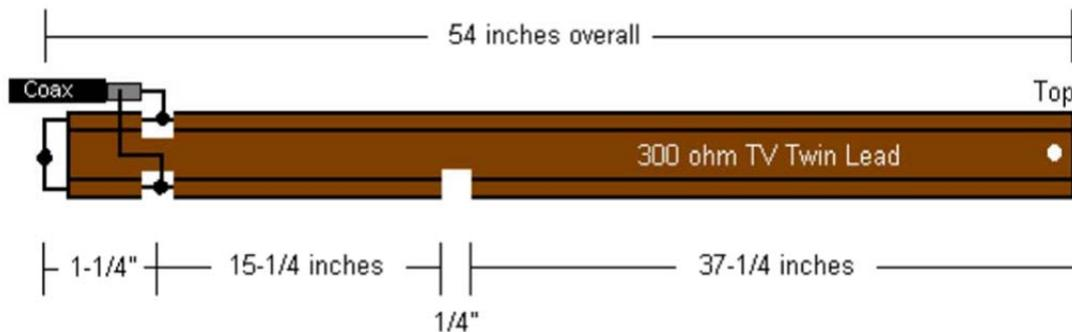

Figure 1. J-pole
2. Measure up 1-1/4 inches from the bottom and carefully remove the insulation, exposing both wires, as shown in Figure 1. Keep the notches small (1/8" or so) and be careful **not to cut the wires**. This is where we will be attaching the coax later.
3. Attach your coax as shown in Figure 1.